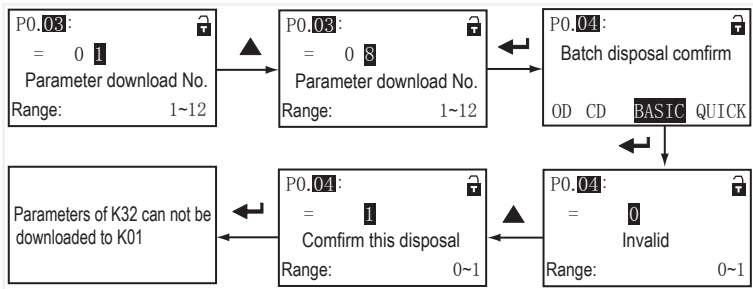

Figure 3-47 YS-P03 does not download between different controllers
3. If the group 8 of panel has saved the parameters of YS-K32 controller, this parameters can't be downloaded to the YS-K01 controller, shown as Figure 3-47 for the download failure then enter stop state.